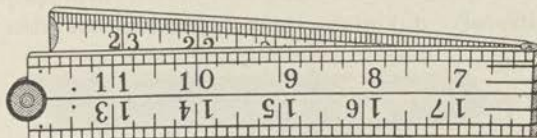

FIGURE 11.—Carpenter's rule.
b. *Carpenter's rule* (fig. 11).—Usually made of boxwood and used for most measurements. It is 2 feet long, and hinged to fold to 6 inches. For measurements more than 2 feet, raise the rule and move it along, or substitute a 6-foot jointed rule or a measuring tape. To